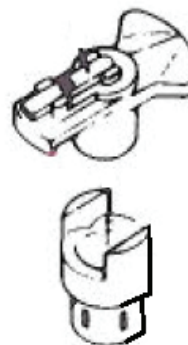

FIGURE 2
- Install magnet sleeve as shown in FIGURE 2.